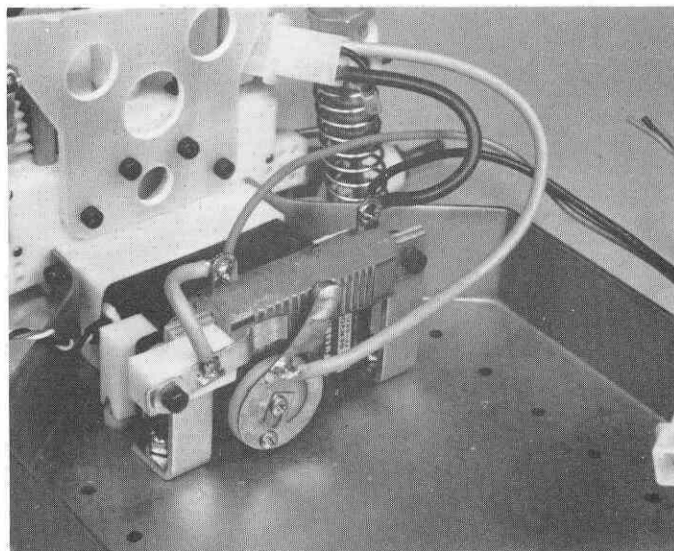

Fig. 172
□ **Fig. 172** Large (S27) servo installed.